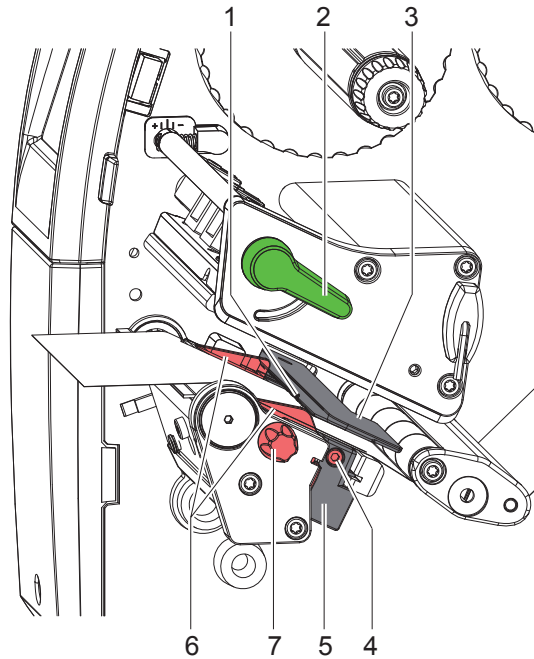
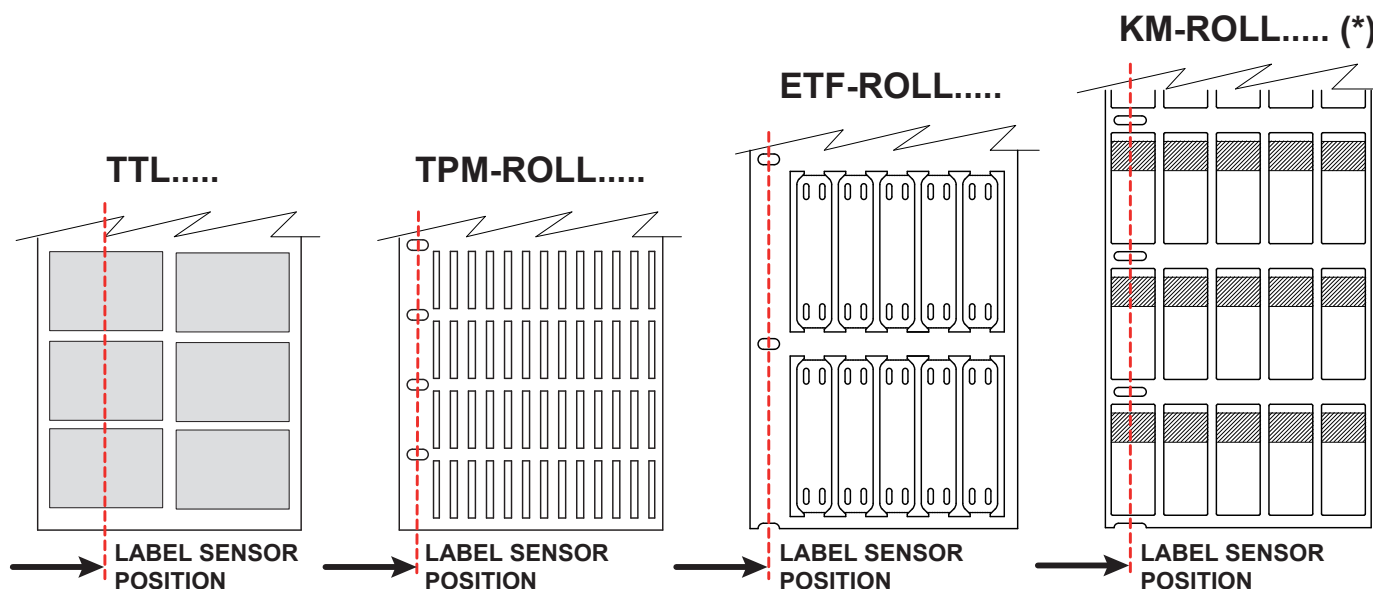

Figure 10 Inserting the media into the printhead
Figure 11 Examples of label sensor setting
The label sensor can be shifted perpendicular to the direction of paper flow for adaptation to the media. The sensor unit (1) of the label sensor (Ref. to Fig. 10) is visible from the front through the print unit and is marked with an indentation in the label sensor retainer. When the printer is switched on, a yellow LED illuminates the sensor position.
- Loosen screw (4).
- Position label sensor with tab (5) in such a way that the sensor (1) can detect the label gap or a reflex or perforation mark.
In Figures 11 and 12 there are some examples showing the right positioning of the label sensor (1) depending on the type of material being printed.